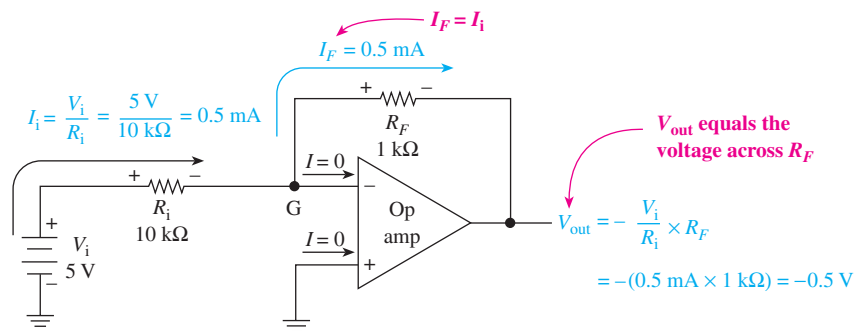

Figure 15–2 Basic op-amp operation.
Figure 15–1 shows that for each analog voltage, we can determine an equivalent digital representation. For example, at 4 ms the analog voltage of 10 V will be represented by an A/D converter as 1010_2 . Using four binary positions gives us 4-bit **resolution**, which allows us to develop 16 different representations, with the increment between each being 1 part in 16. If we need to represent more than just 16 different analog levels, we would have to use a digital code with more than four binary positions. For example, a D/A converter with 8-bit resolution will provide increments of 1 part in 256, which provides much more precise representations.
Most A/D and D/A circuits require the use of an **op amp** for signal conditioning. Three characteristics of op amps make them an almost *ideal amplifier*: (1) very high input impedance, (2) very high voltage gain, and (3) very low output impedance. In this section, we gain a basic understanding of how an op amp works, and in future sections, we see how it is used in the conversion process. A basic op-amp circuit is shown in Figure 15–2.
The symbol for the op amp is the same as that for a comparator, but when it is connected as shown in Figure 15–2, it provides a much different function. The basic theory involved in the operation of the op-amp circuit in Figure 15–2 is as follows: